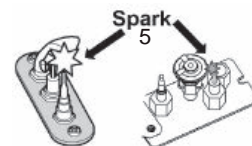

Fig 3
2. TO CLEAR ANY GAS, turn main valve off by pressing the button on remote handset (1). Wait five (5) minutes to clear out any gas, then smell for gas, including near the floor. If you smell gas, STOP! follow "B" in the safety information above on this label. If you don't smell gas, go to the next step.
3. AUTOMATIC IGNITION: MAN-knob (2) in ON position. Ensure Flame Adjustment knob (3) is set to lowest setting (Fig. 1). Locate the pilot (Fig. 3.) inside the firebox.
With the window off, locate the pilot (Fig. 3) inside the firebox. Set Flame Adjustment knob (3) to the lowest setting. Push down the metallic core (4) with a pen or similar instrument; this will establish the pilot gas flow. Light gas at the pilot (5) with a match. Continue holding down metal core (4) for about 10 seconds; after release, pilot should remain lit. If the pilot will not stay lit after several tries, turn the gas control knob (3) to OFF and call your local service technician or gas supplier. Reinstall the window and set the MAN-knob (2) to ON; turn Flame Adjustment knob (3) up or down manually or use the and buttons on the remote control handset to adjust the flame height.